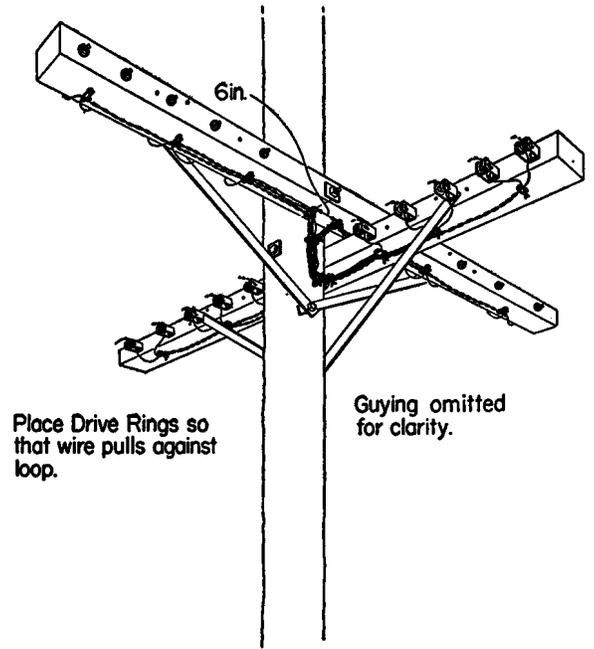

Fig. 6
3.01 At buck arm locations make the bridling run as shown in Fig. 6.